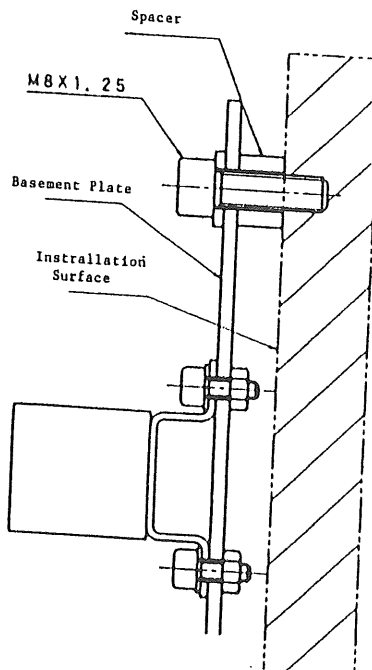

Fig. 2
⑥ INSTALLATION
- ① When the installing surface is flat, install the basement plate vertically with M8 bolt by attaching the spacer provided on the reverse side of the basement plate. (Fig. 2)